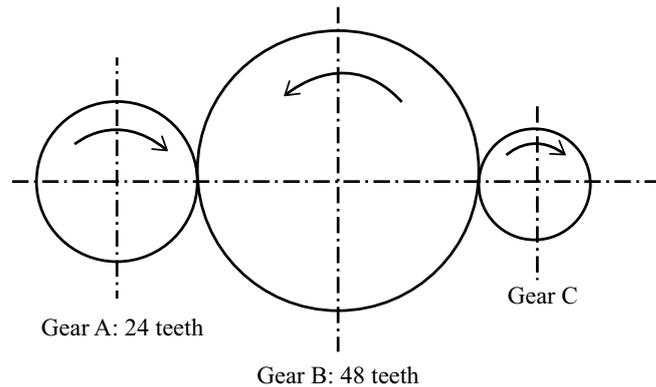

Fig. 2
- (ii) The application for the gears A and C in part (d) (i) requires gear C to rotate in the same direction as gear A. An alternative gear train is proposed, with gear B inserted between gears A and C. The gears are represented as circles in Fig. 2.
- (iv) An alternative system to transfer rotary motion between two shafts would be a belt and pulley system. Give **one** advantage to using a gear system such as the one shown in Fig. 2 rather than a belt and pulley system.